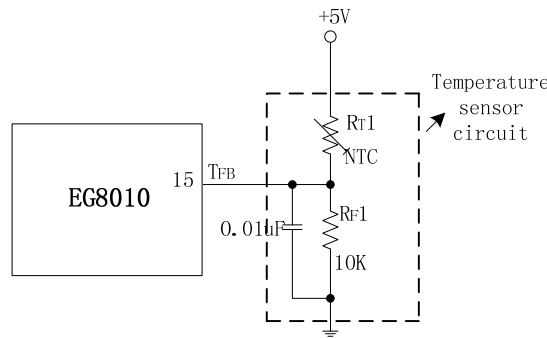

Figure 8.3a EG8010 Temperature detection circuit
Pin TFB measures inverter’s environment temperature. Its main functions are overtemperature protection detection and displaying the environment temperature onto 12832 LCD. For temperature detection circuit shown in figure 8.3a, NTC thermal resistor RT1 and measuring resistor Rf1 form a simple voltage divider circuit. Voltage changes as the NTC resistance changes, and thus we can acquire the corresponding temperature. Thermal resistor has 10k resistance at 25°C(B=3380). Pin TFB’s overtemperature voltage sets at 4.3V. EG8010 will set the level of SPWMOUT1 to SPWMOUT4 at “0” or “1” and shut down all power MOSFET to decrease the voltage to zero depending on pin (9)PWMTYP’s setting. Once overtemperature protection activates, EG8010 will re-determine environment temperature. If pin TFB ‘s voltage is below 4.0V, EG8010 will turn off overtemperature protection and the inverter functions regularly. If overtemperature protection is not used, this pin needs to be grounded.